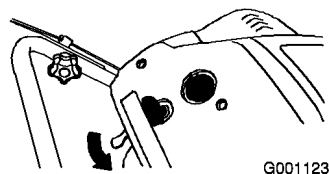

Figure 14
- Move the choke lever to the right (Figure 14).